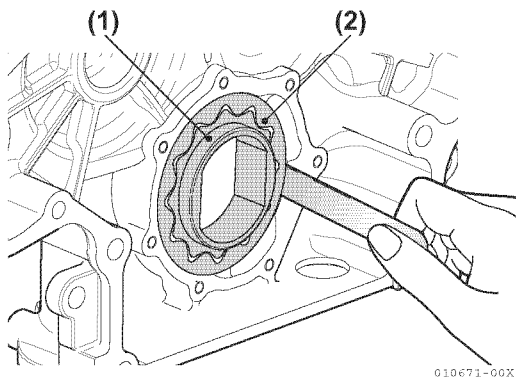

Figure 8-15
Figure 8-15 shows the examples of lubricating oil pump of 3JH4E and 4JH4AE. This procedure is identical for the 4JH4-TE and 4JH4-HTE.
1. Using feeler gauges, measure the clearance between the outer rotor (**Figure 8-15 (2)**) and the pump case.
2. Using feeler gauges, measure the clearance between the outer rotor (**Figure 8-15 (2)**) and the inner rotor (**Figure 8-15 (1)**).